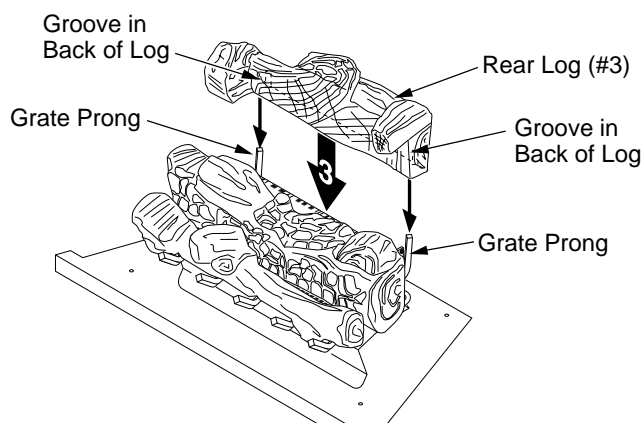

Figure 26 - Installing Rear Log (#3)
3. Slide the grooves in the back of the rear log (#3) against the rear grate prongs. Make sure the log fits securely over the prongs (see Figure 26). Make sure log is completely vertical and not leaning in toward burner where the flame will touch the log.